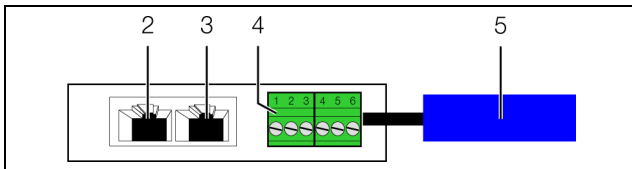

Fig. 10: Rear of the airflow sensor
A multi-LED for the status display is integrated into the front of the airflow sensor (fig. 9, item 1). Further LEDs are located at the rear on the CAN bus connection (fig. 10, item 2 and item 3).